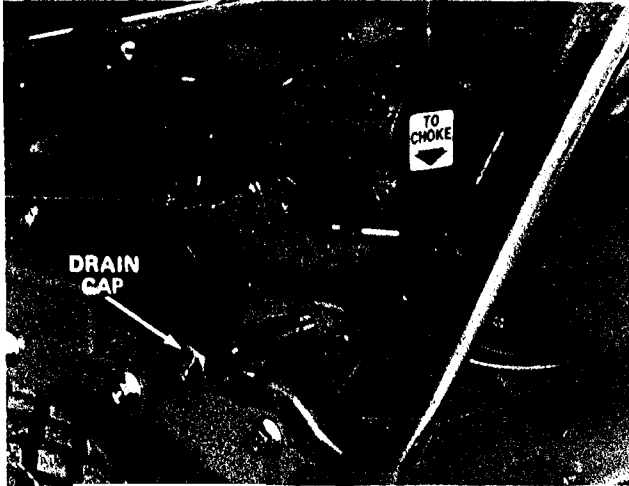

Figure 31
3. Clean area around oil drain cap. Next, slide oil drain pan below drain extension; then remove oil drain cap (Fig. 31).